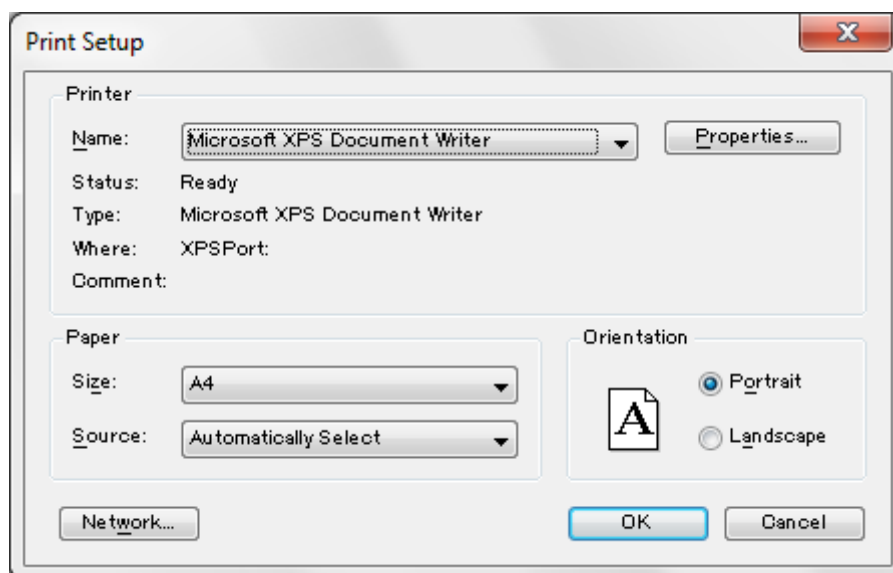

Figure 4.12 Example of [Print Setup] dialog box
- (1) Select [Print Setup...] from the [File] menu to display the dialog box in Fig. 4.12. The content of this dialog box varies depending on the connected printer. Configure the printer settings if necessary.